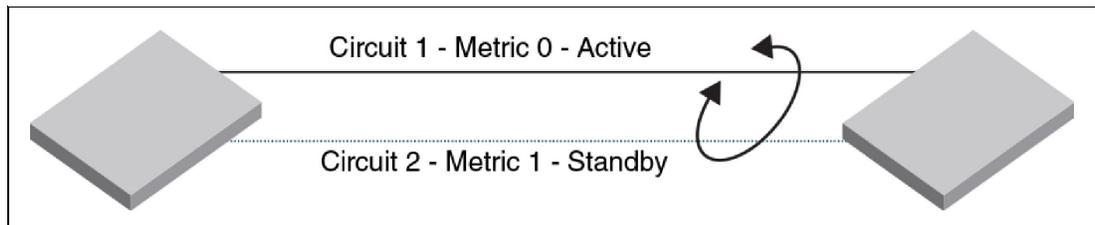

Figure 2-6 Active-Standby configuration with failover to a higher metric circuit
Figure 2-6 shows a scenario where Circuit 1 within a tunnel is configured as the primary circuit with metric 0 and Circuit 2 as the standby circuit with metric 1. In this case, Circuit 2 is not used at all when Circuit 1 is up and running. Only when all primary circuits with a lower metric (0) are not available is data retransmitted over standby circuits with a higher metric (1).